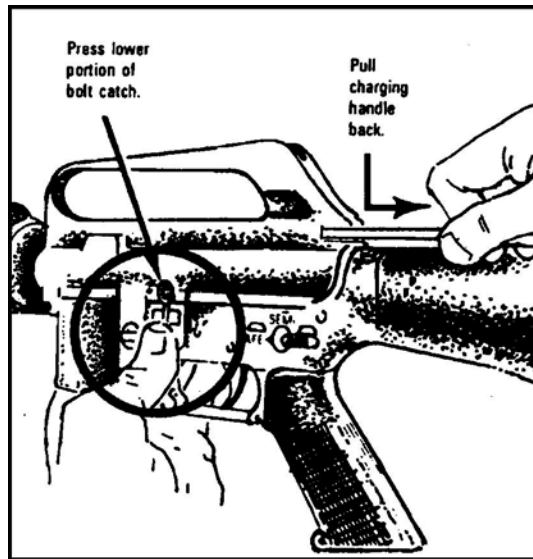

Figure 2. Locking the bolt open.
d. Lock the bolt open (Figure 2).